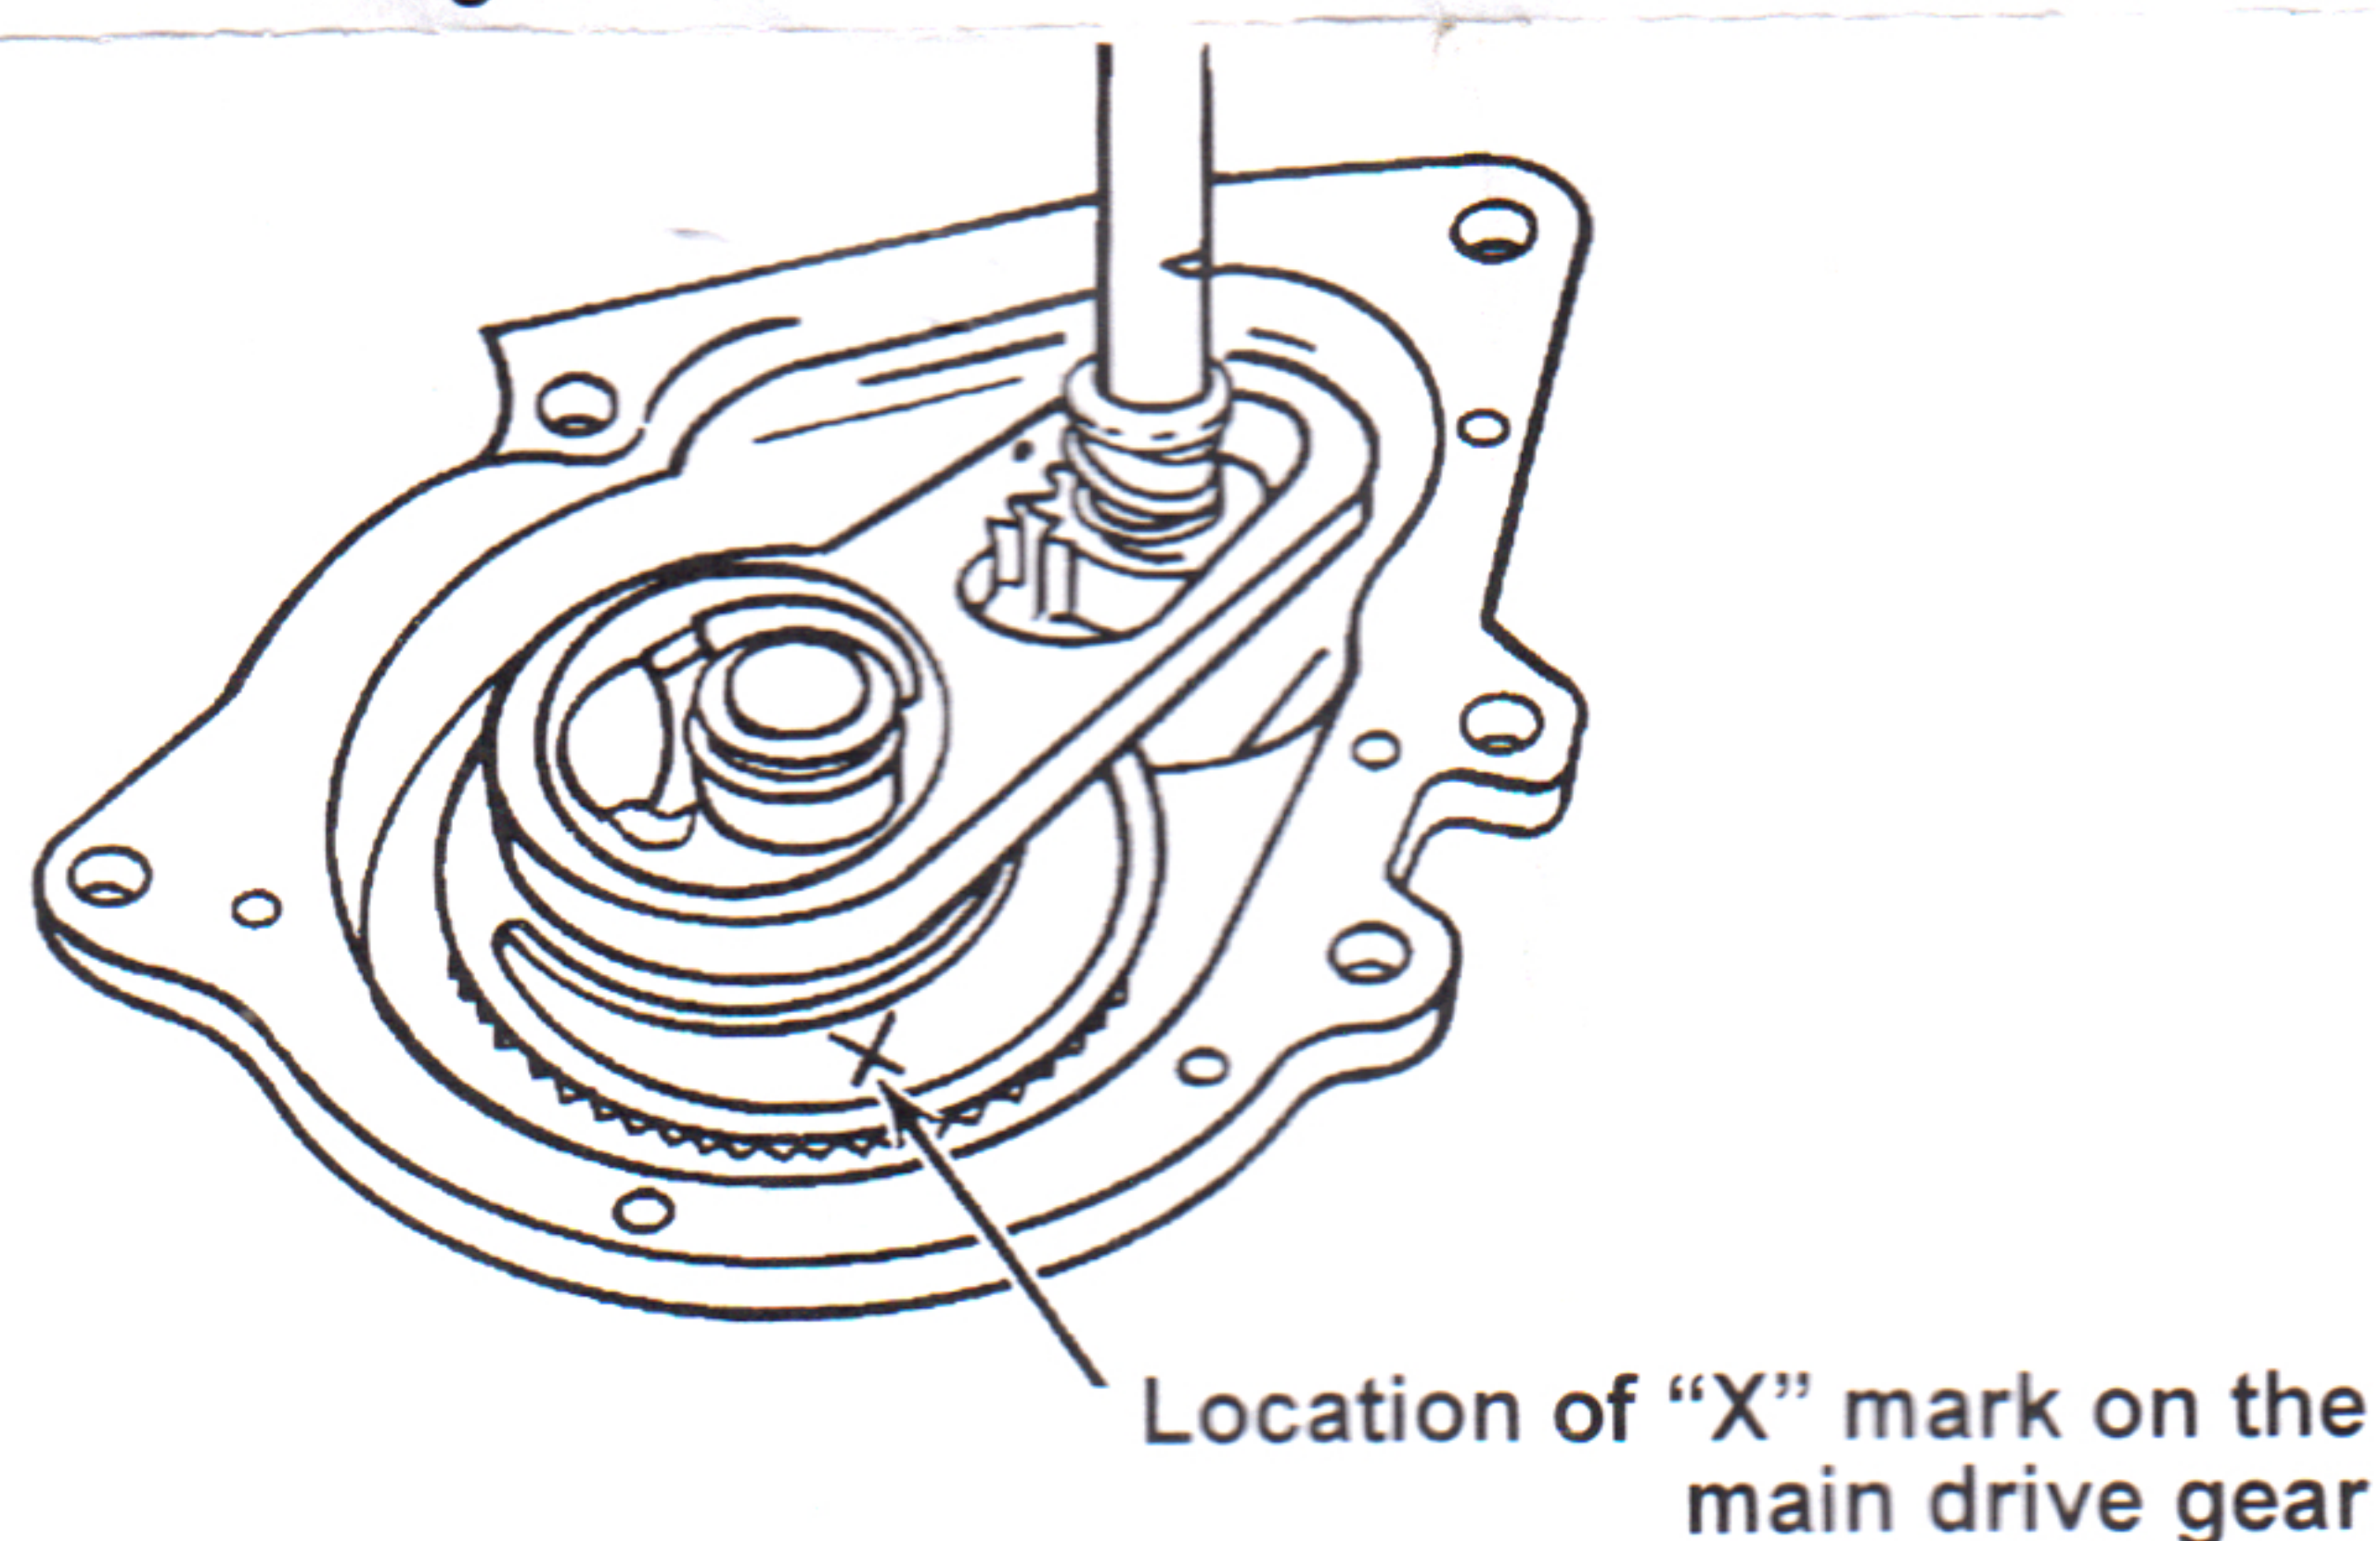

Figure 1
1. Examine the main-drive gear to see if an "X" is marked into it. See Figure 1.